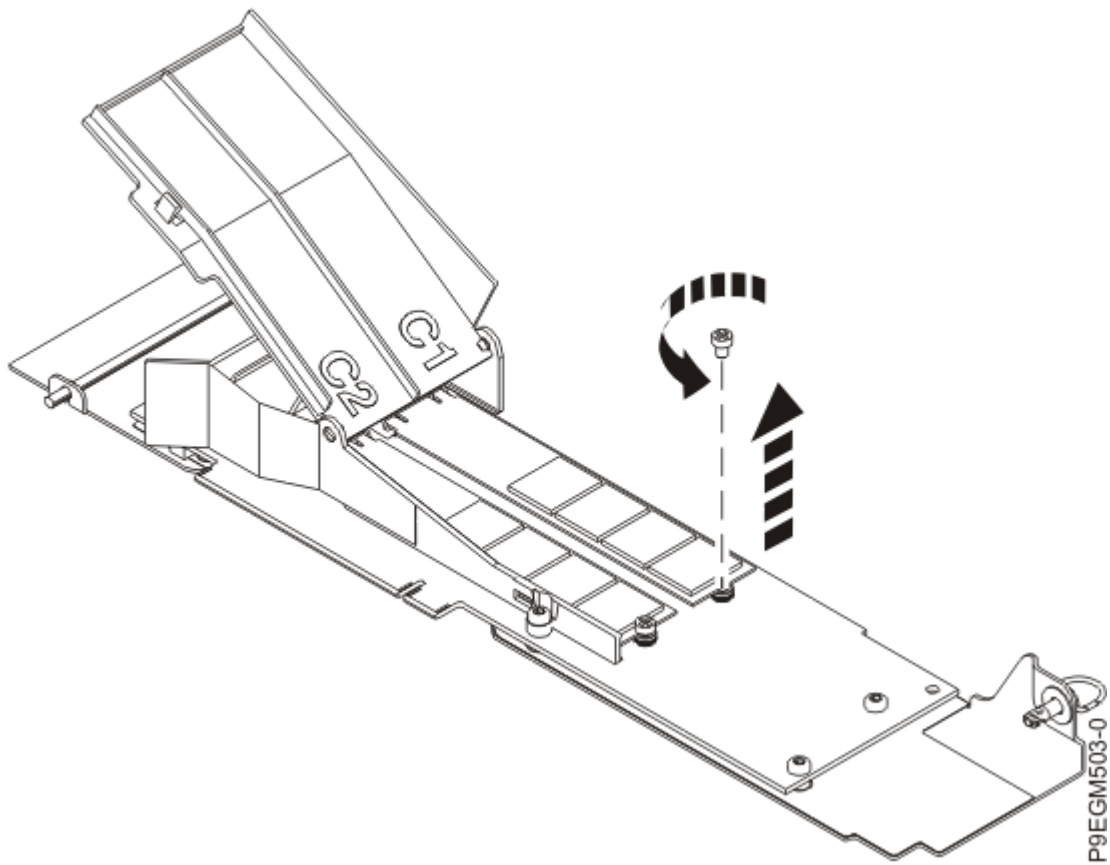

Figure 30. Unscrewing the NVMe M.2 carrier card flash module
- b) Using a Phillips screwdriver, unscrew the screw on the NVMe M.2 flash module. See Figure 30 on page 36.